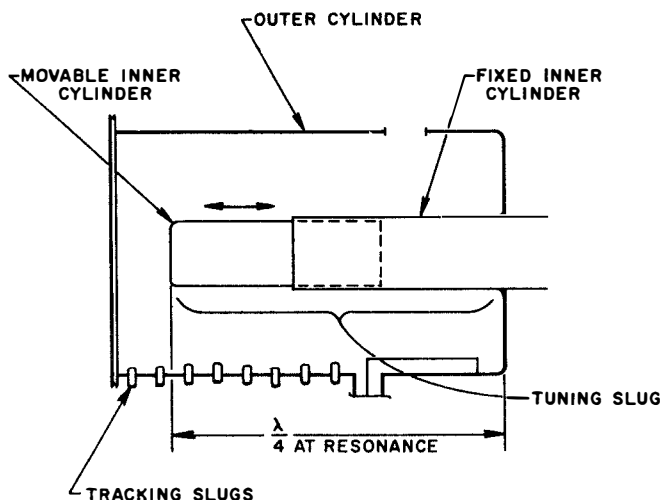

Figure 4-2. Cavity Design, Simplified Diagram
(1) **CAVITY DESIGN.** - The eight cavities are identically designed. Each cavity is composed of an outer conductor and an inner adjustable tuning conductor arranged to form an adjustable 1/4-wavelength coaxial element (figure 4-2). Each cavity acts as a shorted 1/4-wavelength stub. The cavities are tuned by positioning the movable inner cylinder of the tuning conductor. This varies the total length of the conductor to alter the resonant frequency of the cavity. The cavity elements are made of silver-plated aluminum. The outer conductor, which is 6 inches in diameter, is extruded from a single piece of material. The inner conductor, which is 1-3/4 inches in diameter, is composed of a fixed cylinder and a movable concentric extension or sleeve. When fully extended, the inner conductor length is such that the cavity resonates at 225 mc. The cavities have an unloaded Q of approximately 4000 and a loaded (operating) Q of approximately 700. The extremely high Q is due to the large size of the conductors and the small high-frequency losses inherent in the material and in the plating. Efficiency is related to Q by the formula: